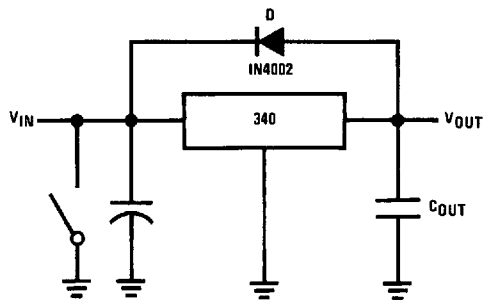

FIGURE 1. Input Short
**Shorting the Regulator Input:** When using large capacitors at the output of these regulators, a protection diode connected input to output (*Figure 1*) may be required if the input is shorted to ground. Without the protection diode, an input short will cause the input to rapidly approach ground potential, while the output remains near the initial  $V_{OUT}$  because of the stored charge in the large output capacitor. The capacitor will then discharge through a large internal input to output diode and parasitic transistors. If the energy released by the capacitor is large enough, this diode, low current metal and the regulator will be destroyed. The fast diode in *Figure 1* will shunt most of the capacitors discharge current around the regulator. Generally no protection diode is required for values of output capacitance  $\leq 10 \mu F$ .